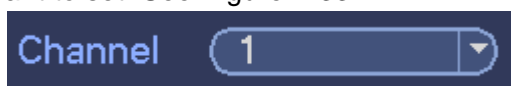

Figure 4-33
- Select a channel you want to set. See Figure 4-33.